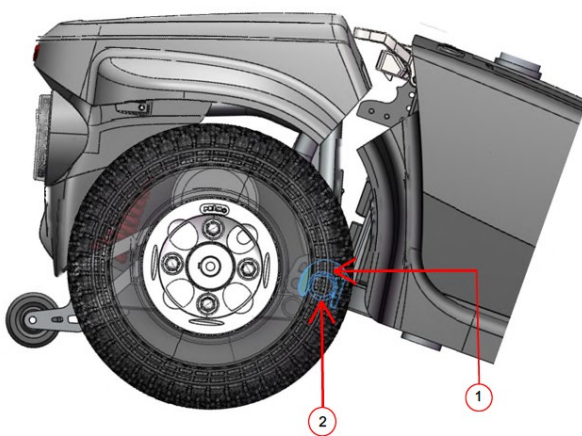

Figure 8. Frame Release Lever
ATTENTION – Before attempting assembly, tilt the rear half of the Scooter slightly back on the anti-tip wheels as shown in figure 8.
6. Slowly separate the two parts of the Scooter. See figure 8.
6. Use the front frame release lever to lift the front frame as you align the framehooks of the front frame with the rear frame tube of the rear frame. See figure 8.
7. Once the frame hooks are over the rear frame tube, lower the front frame and pivot the rear frame simultaneously. This will engage the frame lock-up automatically. See figure 8.